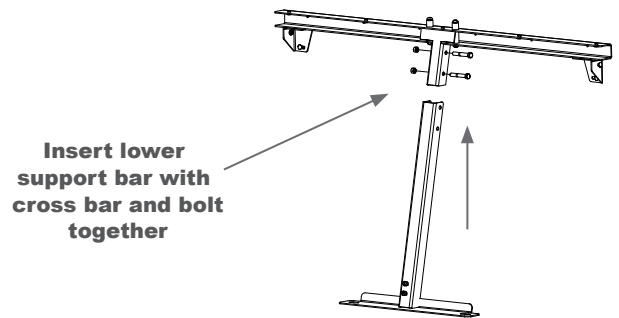

Fig. 1
A. After the barrier has been completely installed, then proceed by attaching the lower (3OSB5715-08) and upper support bars (3OSB5715-01). (As shown in Fig. 1) Use the two 3/8-16 bolts (3X114) and nuts (3X170) to secure the support bars together. Attach the seat belt support bracket to the crossbar. It is not necessary to tighten these bolts until step C are completed.